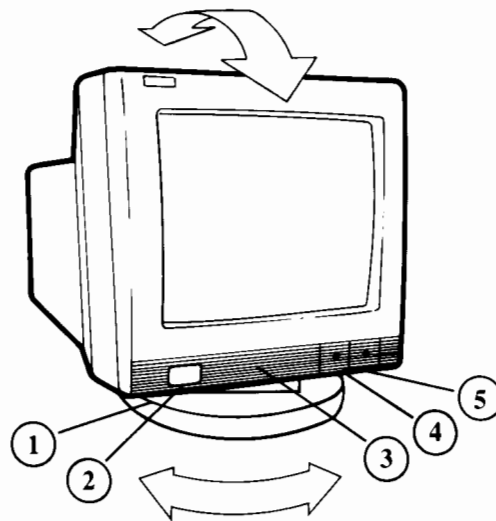

Figure 1-2. Terminal Controls
2. Make sure the power cord is not yet connected to the terminal. Also, make sure the power on/off button is set to off (pushed in is on, flush with the panel is off). The power button is located on the lower left front of the display unit (Figure 1-2).
To adjust the *tilt*, move the top of the display unit gently up or down until the angle is most comfortable for you. (See Figure 1-2.) The display unit remains tilted at the angle in which you leave it.
The base of the display unit allows you to *swivel* the unit freely to the right and left (Figure 1-2).
The *brightness and contrast controls* are slide switches under the front right corner of the display unit (Figure 1-2). Sliding these switches adjusts the brightness and contrast.